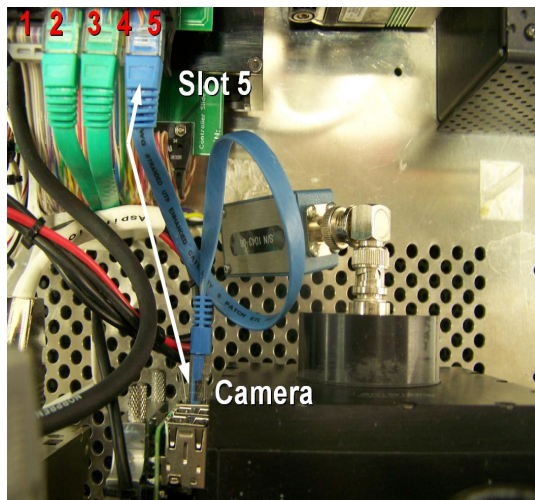

Figure 3a: *Camera* and *Slot 5*.
- Remove the *Blue Ethernet Cable* from the *Switch Outlet* on the *Power Supply*, loop the other end around [1] time, and then insert it into the bottom connection on the *Camera*. Gently peel the labels off of the *Power Supply* and then insert the [2] *RJ-45 Plugs (629100)* into the outlets (they can only fit one way) (Figures 3a and 3b).